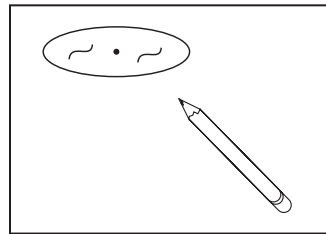

Figure 2
Step 2. Locate center of proposed opening on ceiling and use template to mark and accurately cut a 5-1/2" (for 5" housings) or a 6-5/8" (for 6" housings) opening (Fig. 2).